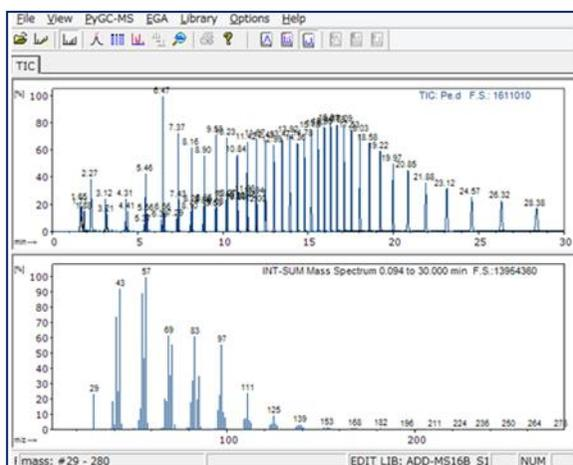

Fig. 5-24 INT-SUM mass spectrum
- (5) Select [PyGC-MS] - [Make INT-SUM Mass Spectrum...], then specify the time range over which all peaks will be integrated. Select integration summation (INT-SUM). Select [OK] to generate an INT-SUM mass spectrum which is displayed at the bottom of the window as shown in Fig. 5-24.